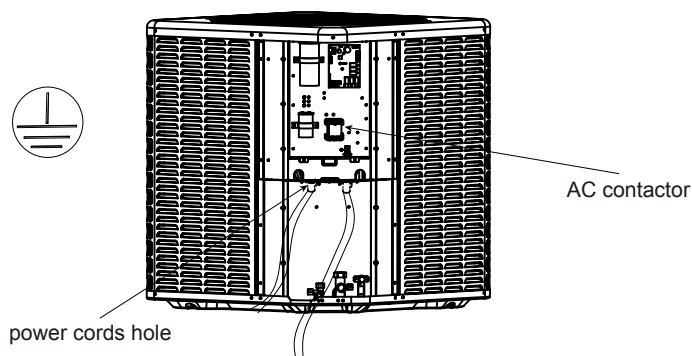

Figure 13-3.
2. Firstly thread the power cords (L1, L2) and ground wire through the power cords hole. Secondly connect L1, L2 and ground wire to terminals of the AC contactor properly one by one. Finally fasten the pipe of the power cords and ground wire. Refer to Figure 13-3.